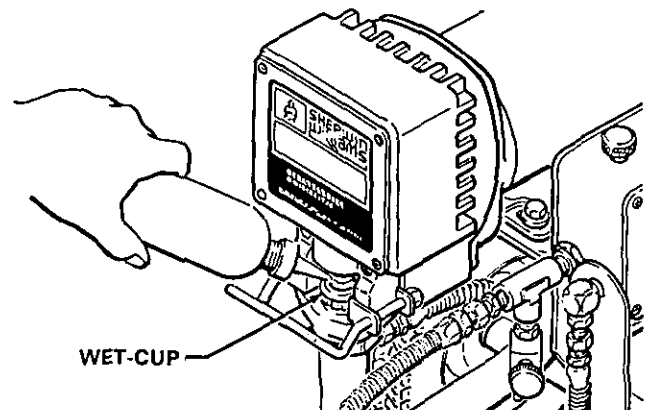

Fig 2
3. Never install any shutoff device between the pressure control and the main hose. See Fig 2.
2. **Fill Packing Nut/Wet-Cup (See Fig 2.)**